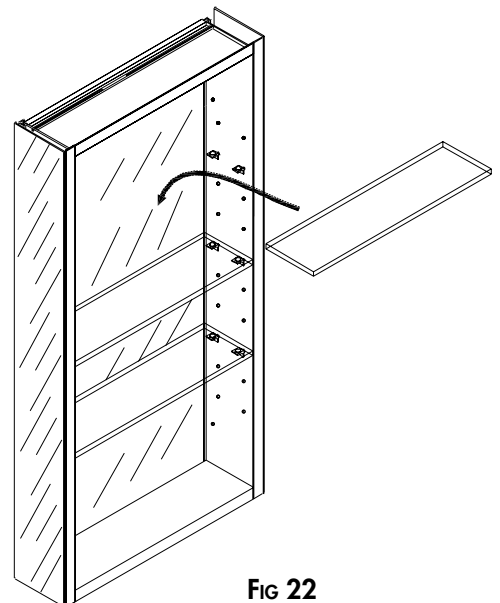

FIG 22
6. Place glass shelf on top of clear shelf clips making sure shelf is against back of cabinet. Press lightly to adhere to shelf clip sticker (Fig 22).